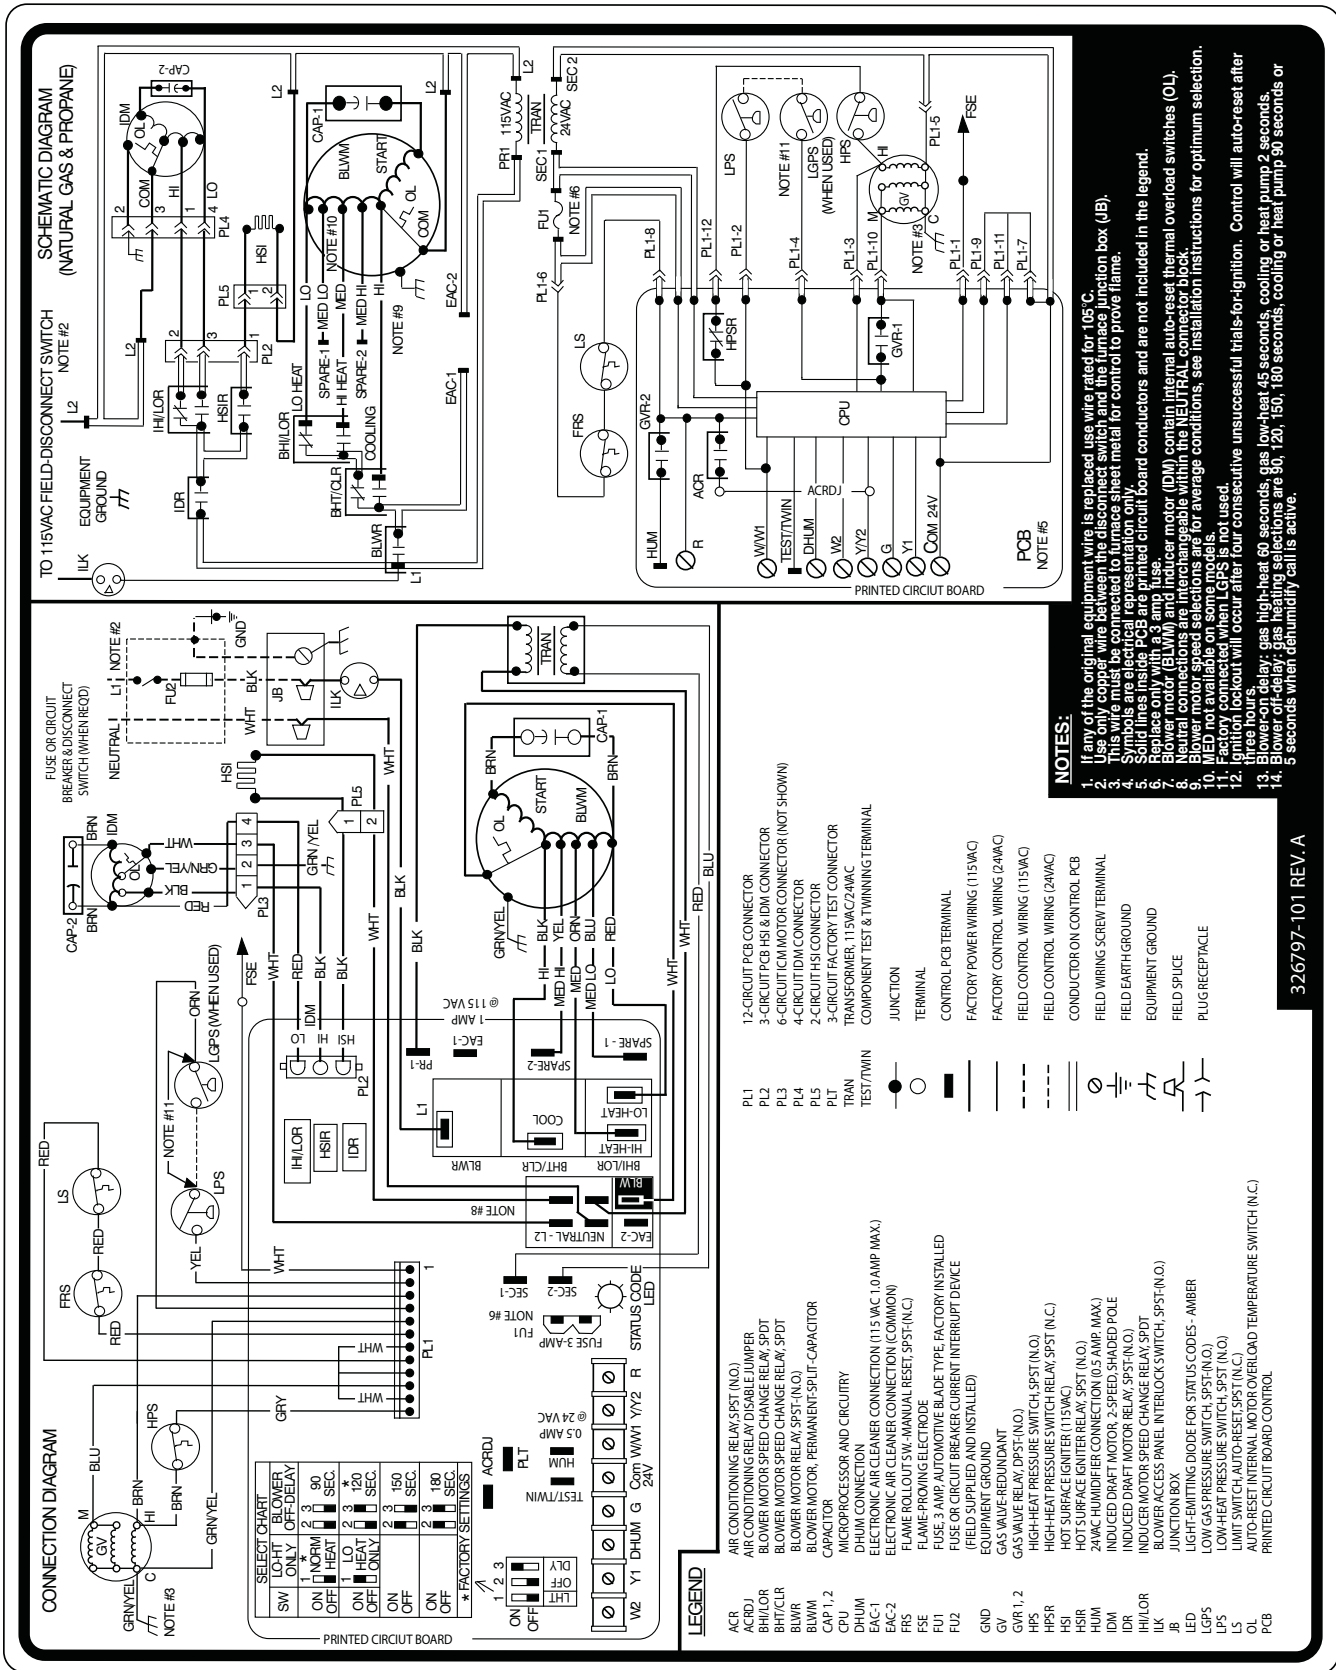

Fig. 36 - Wiring Diagram
2. Humidifier (HUM) Connect an accessory 24 VAC, 0.5 amp maximum humidifier (if used) to the 1/4-in. male quick-connect HUM terminal and COM-24V screw terminal on the control board thermostat strip. The HUM terminal is energized when gas valve is energized. (See Fig. 36 or 37.)